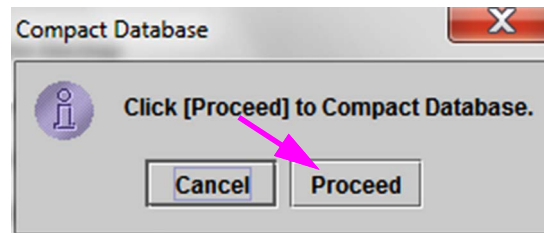

Figure 5-78. Compact Database Confirmation Dialog Box
2. Click **Proceed** on the Database Management window. The Compact Database confirmation dialog box appears. See Figure 5-78.